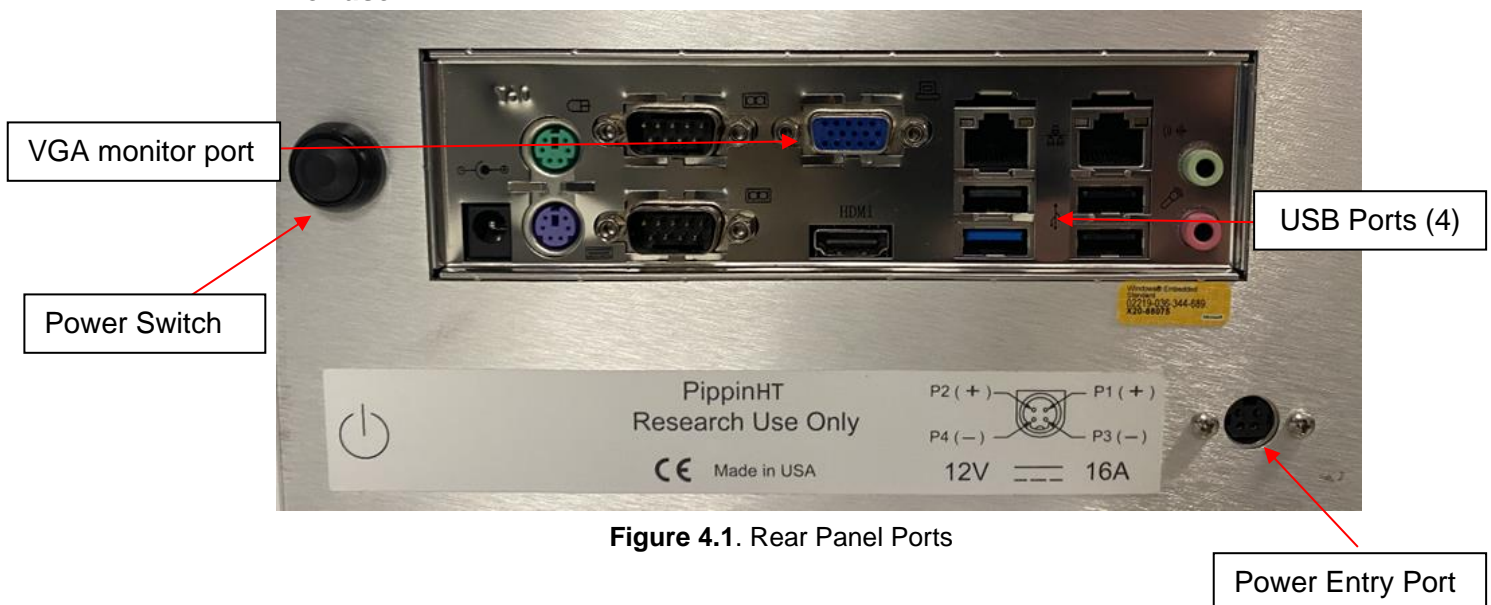

Figure 4.1. Rear Panel Ports
7. Using the video cable provided by the manufacturer, connect the monitor (VGA port, under the monitor screen) to PippinHT (VGA port, on the rear panel, see figure 4.1).
12. Connect PippinHT instrument to an electrical outlet using the power cord and power supply provided with the PippinHT. The power entry port is located is on the rear panel of the instrument (figure 4.1).